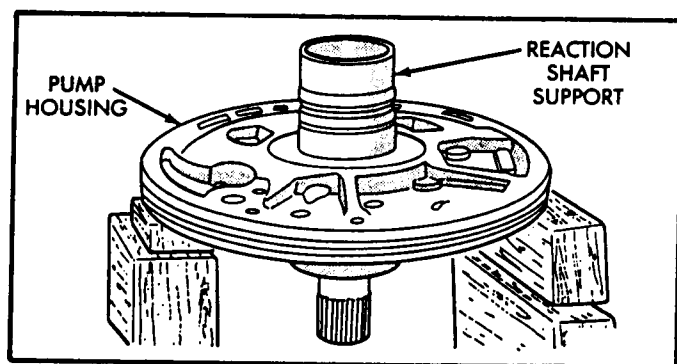

Figure 53
16. Install the reaction shaft support on the pump body as shown in Figure 53.